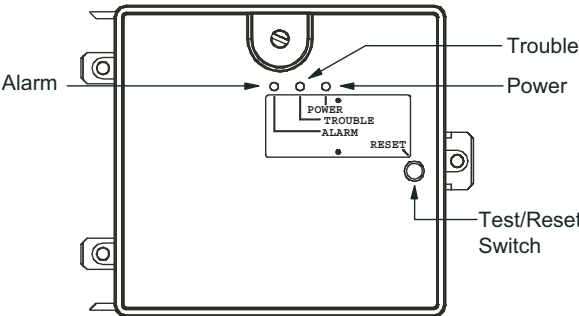

Fig. 53 — Controller Assembly
- The contacts on the controller’s supervisory relay switch positions. (See Fig. 53.)